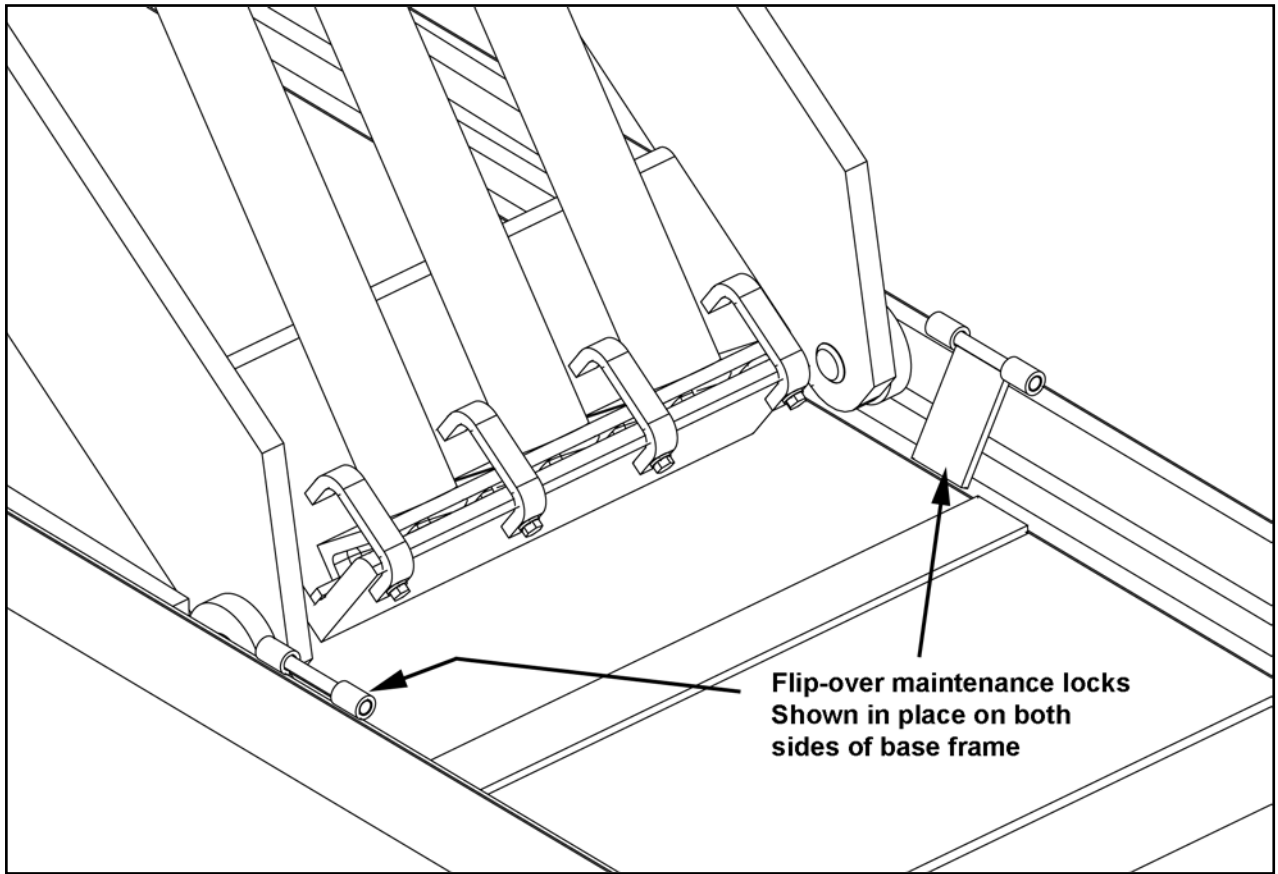

Figure 6.1
3. The lift will be provided with two (2) maintenance locks stored on the outside of the base frame. The locks must be securely placed inside the base frame and thus in the roller path of the lift (**See Figure 6.1**).